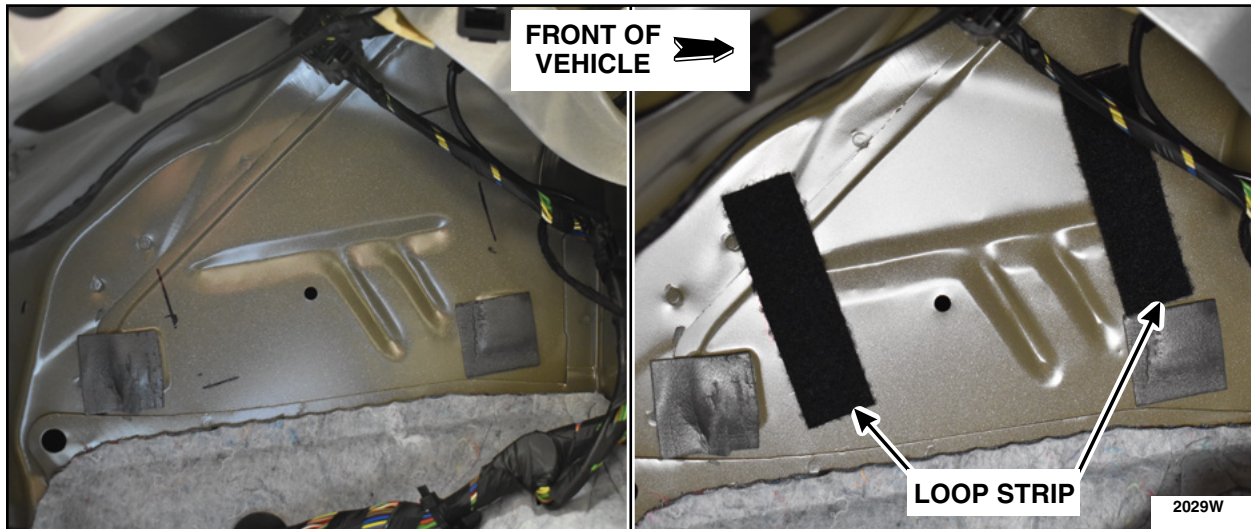

FIGURE 9
10. Clean the surface and apply loop strip. See Figure 9.